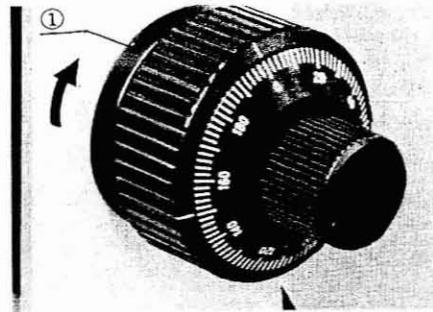

Fig. 18
Although the tension of the coarse adjustment knobs has been already adjusted for optimum performance by the manufacturer, it is possible to personally adjust the tension of the coarse adjustment for either heavy or light movement depending on the operator's preference by rotating the tension adjustment ring ①. (Fig. 18)